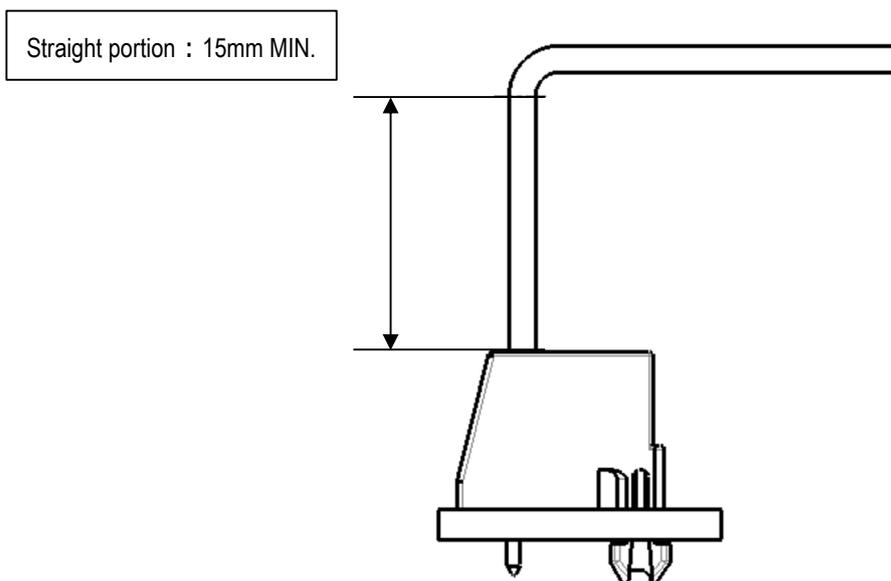

Fig.32 Arrangement of wires
- ① When arranging the wires horizontally, to avoid excessive stress to the sidewalls and terminals, please keep the wires straight (at least 15mm) from connector as shown in Fig.32.
- ② Once straight portion is secured, arrange the wires with adequately large R.